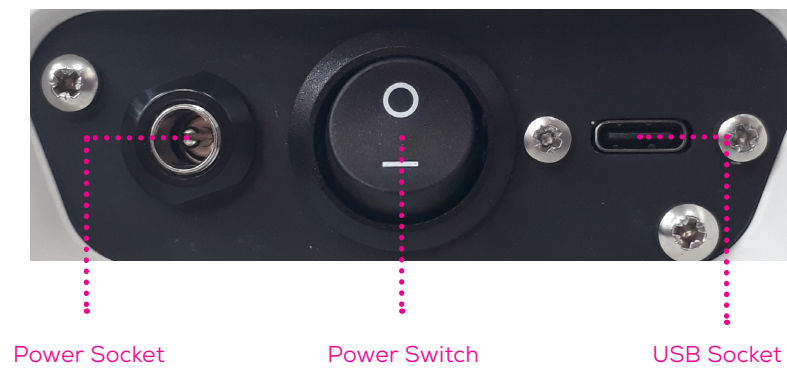

Figure 8: Switches and sockets on the Exoid.
1. Turn off the switch on the Exoid. The off position is where the full "O" symbol is pressed down as indicated in **Figure 8**.